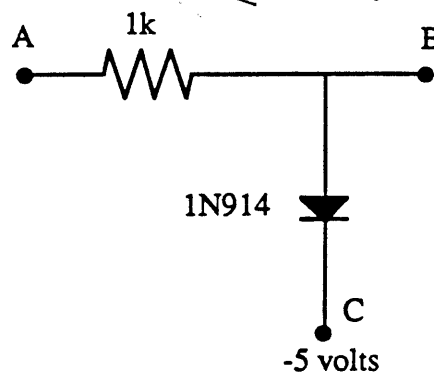
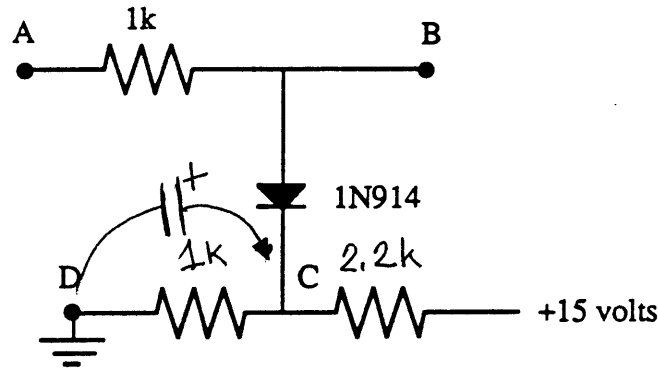

Figure 5.7 - ~~Rectifying differentiator~~ Voltage clamp.
Figure 5.8
- (1) Build the circuit shown in Figure 5.7.
- (2) Change the generator output to a 20V_{p-p} sine wave. You will use this setting for the rest of this part of the lab. Connect your generator output to point A. Note that the generator common is connected through the power supply to your circuit.
- (3) Connect your scope's CH1 input to point B and record the waveform you see in Table 5.13.
- (4) Modify the circuit to that shown in Figure 5.8.
7. What is the role of the ~~2.2k~~ resistor in Figure 5.7? Explain the circuit operation. 1k